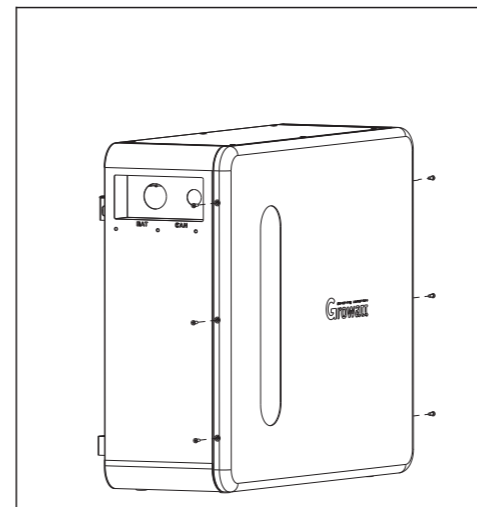
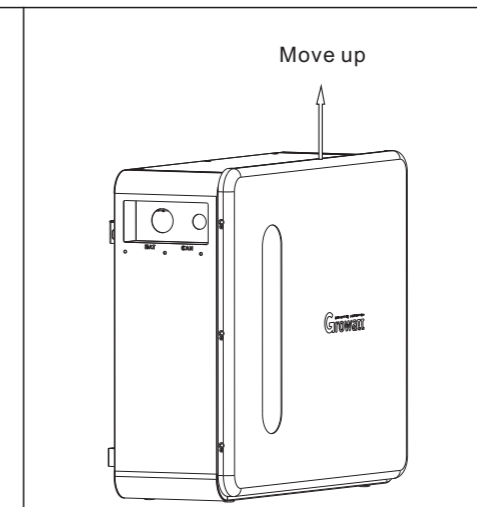
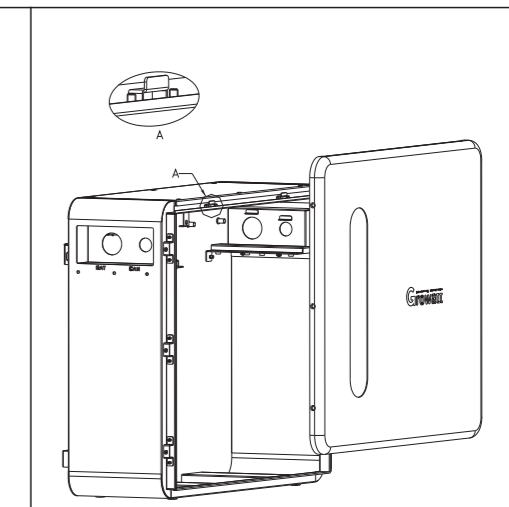

Figure 5 .(remove screws on left and right sides)
Figure 6. (push up the front panel)
Figure 7 .(I-shaped bracket)
1. Use a phillips screwdriver to loosen the six phillips countersunk screws on the left and right sides of the case (as shown in Figure 5). Move the front panel up and away from the front panel (as shown in Figure 6) to avoid the I-shaped drop bracket on the upper part of the case from hanging (as shown in Figure 7).